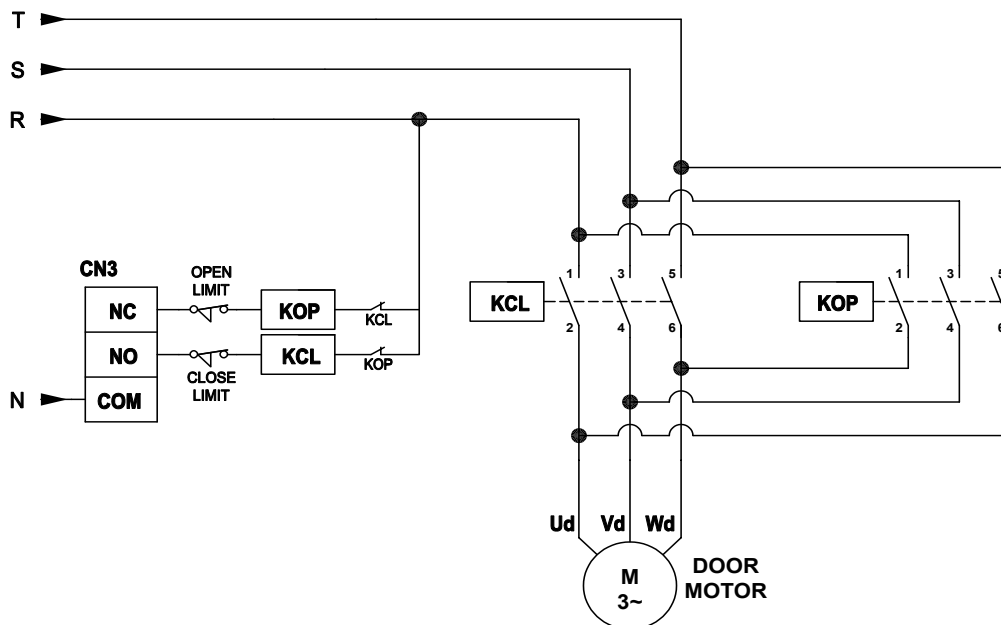

Figure 10.0 - Three-Phase Automatic Door Connections
The terminals of operating the Three-Phase Automatic Door are wired and connected as illustrated in Figure 10.0.
- The Normally Open (NO) terminal (CN3) is responsible for closing the Three-Phase Automatic Door.
- The Normally Closed (NC) terminal (CN3) is responsible for opening the Three-Phase Automatic Door.
- The terminals of the closing and opening limit switches must be combined into the Three-Phase Automatic Door operation circuit as illustrated in Figure 10.0.